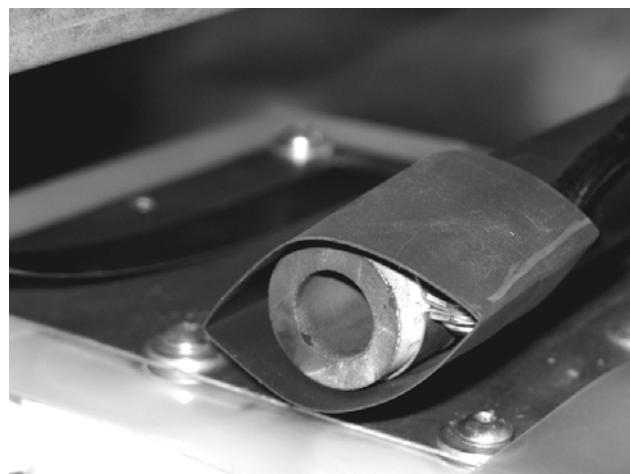

Figure 66: Fitting the 4 cm heat shrink tube
15. Slide the 4 cm heat shrink tube over the HV power supply connection (see Figure 66).